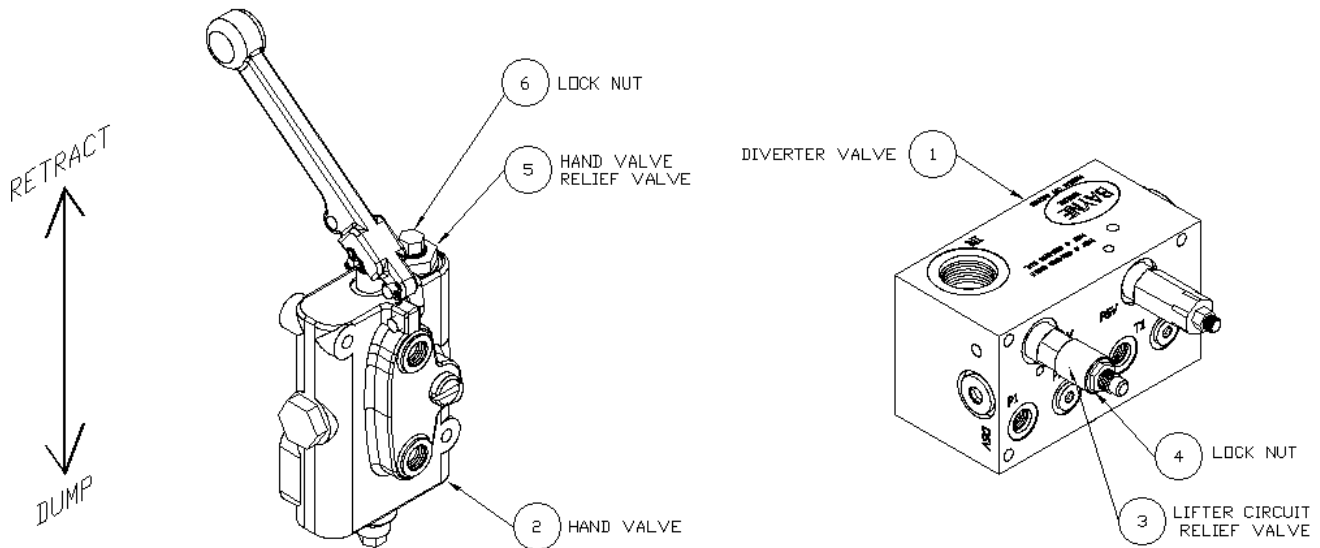
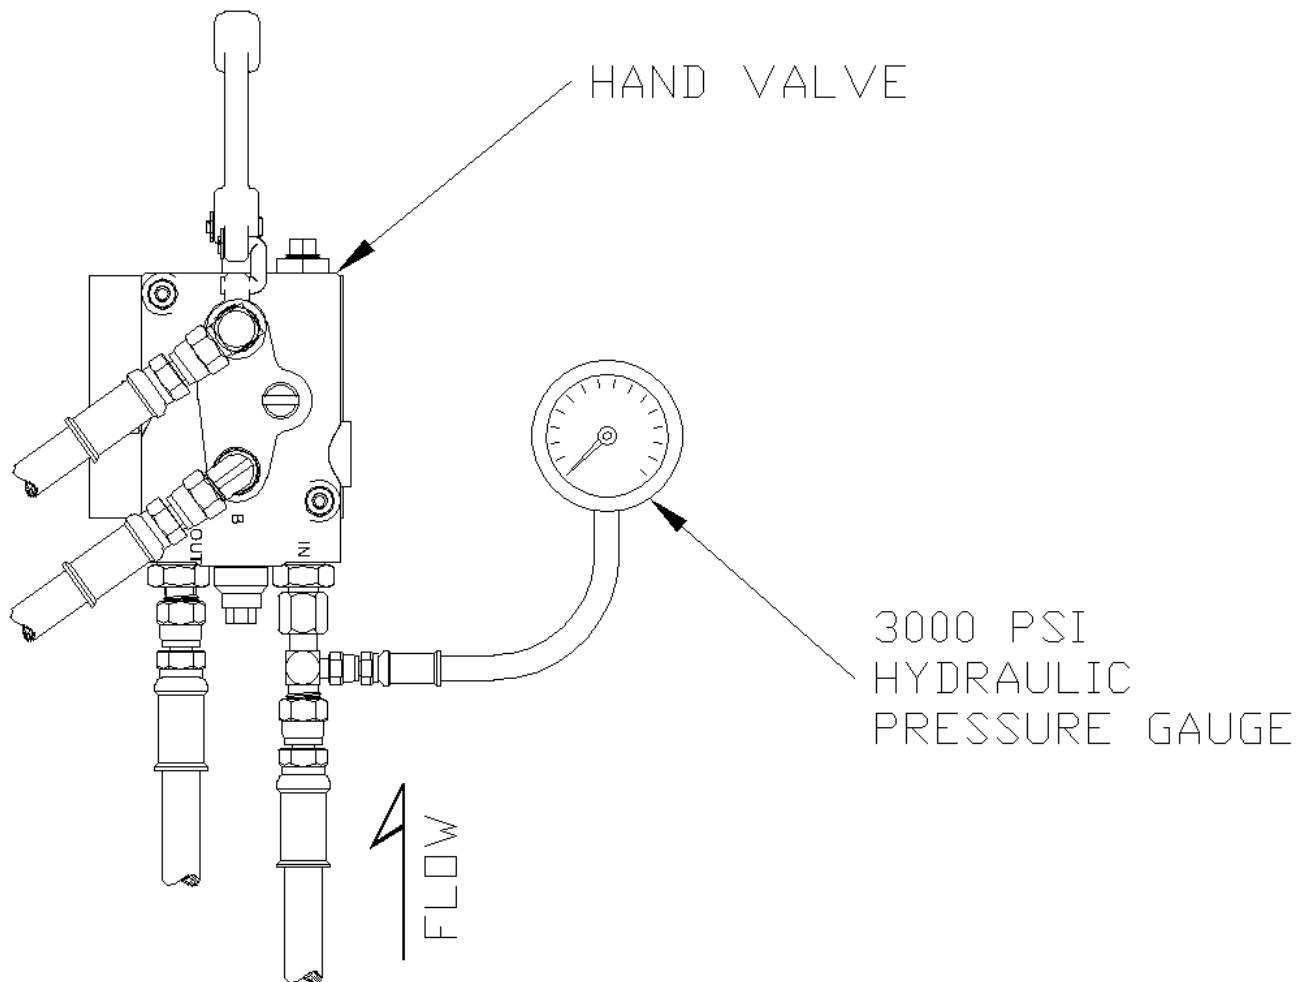

Figure 4.
Figure 5.
The diverter valve (1) (Figure 4) supplies the cart lifter hydraulic system with approximately 2 GPM of oil flow. This diverter valve is equipped with a lifter circuit relief valve (3) set at 2300 psi, to prevent the diverter valve from shutting down if a blockage occurs in the lifter circuit. There is also a relief valve (5) set at 1800 psi in the hand valve (2) to protect the lifter from excessive pressure. These relief valves are preset from the factory to operate properly on most trucks with a system pressure between 2300 and 2500 psi without any adjustment. However, if any adjustment is necessary, follow these instructions.
2. Loosen the lock nut(s) (6) (Figure 4) from the hand valve relief valve(s) (5) and turn the adjustment screw(s) clockwise until it bottoms out.
3. Loosen the lock nut (4) (Figure 4) on the lifter circuit relief valve (3) and turn the adjustment screw clockwise until it bottoms out.
5. Operate the handle on the hand valve (2) (Figure 4) back and forth a few times to bleed all air from the lifter hydraulic system.
7. Install a 3000 psi hydraulic pressure gauge with the necessary adapter in the hydraulic line connected to the "IN" port of the hand valve as shown in Figure 5. If installing dual lifters, install the hydraulic gauge at either one of the hand valves.
- a. Have an assistant hold the handle on the hand valve (2) (Figure 4) (with pressure gauge installed at the "IN" port) in the "retract" position to show pressure on the gauge.
- b. Turn the pressure relief adjusting screw on the lifter circuit relief valve (3) counter-clockwise until the pressure reading on the gauge is either 100 psi less than the truck system pressure or 2300 psi, which ever is the lowest.
- a. Hold the handle on the hand valve (2) (Figure 4) (with pressure gauge installed at the "IN" port) in the "retract" position to show pressure on the gauge.
- b. Turn the pressure relief adjusting screw on the hand valve relief valve (5) counter-clockwise until the pressure reading on the gauge is either 200 psi less than truck system pressure or 1800 psi, which ever is the lowest.
- f. For dual lifters, install the hydraulic pressure gauge in the "IN" port of the other hand valve as shown in Figure 5, start the truck's engine, engage the hydraulic system, and repeat step 10.
11. Reinstall the cap nut(s) (8) (Figure 4) on the hand valve relief valve(s) (5) to secure the correct pressure setting (s).
12. Tighten the lock nut (4) (Figure 4) on the lifter circuit relief valve (3) to secure the correct pressure setting.